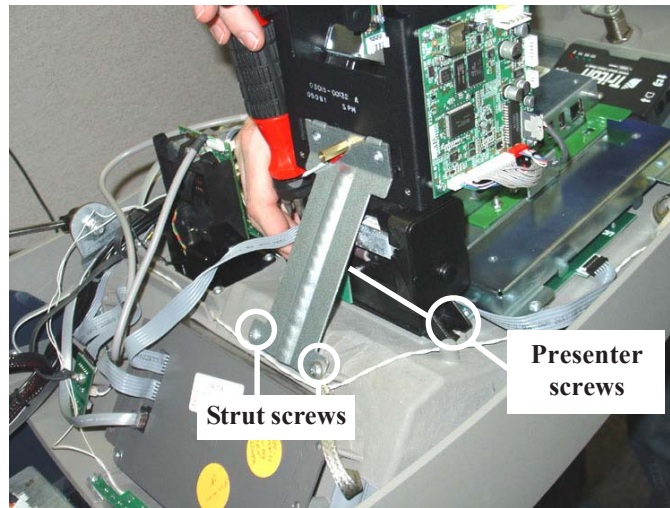

Figure 4. Remove 4 screws that secure printer assembly.
5. Remove the four (4) phillips screws that secure the printer presenter/strut assemblies shown in Figure 4. Retain the (2) strut screws. Remove the whole printer assembly from the unit. **NOTE: There is a ground wire lug attached to the lower right screw shown.**